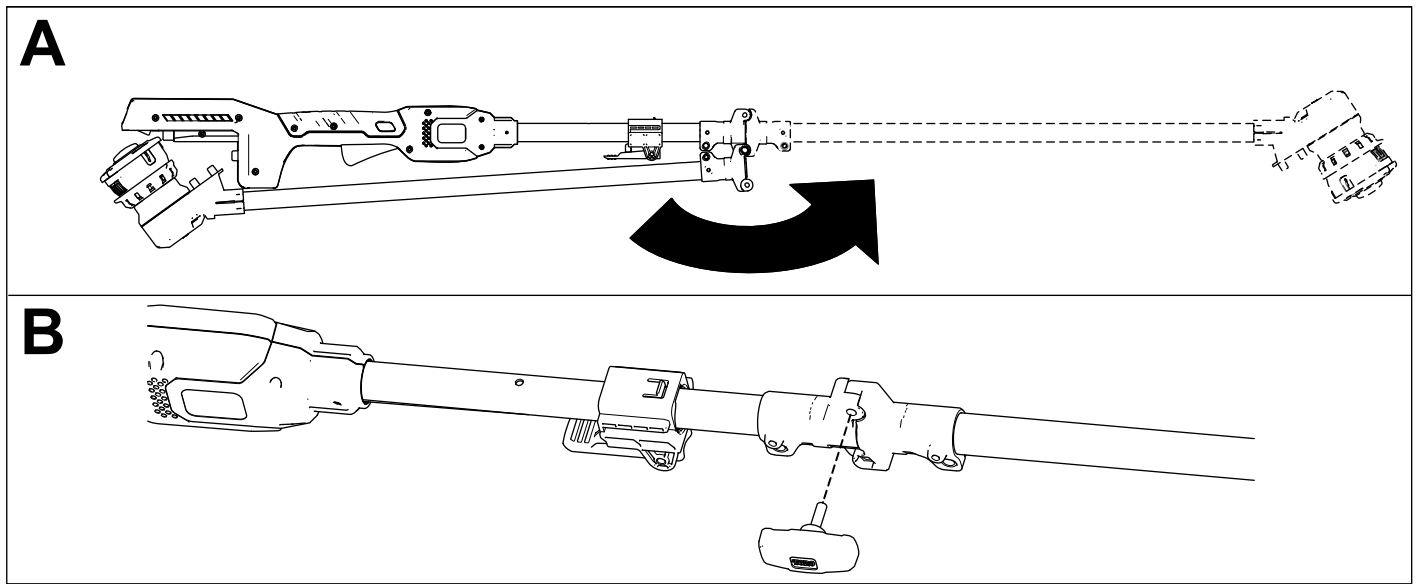

Figure 2
1. Unfold the handle (A of Figure 2).
2. Install the connector knob and nut to secure the handle (B of Figure 2).